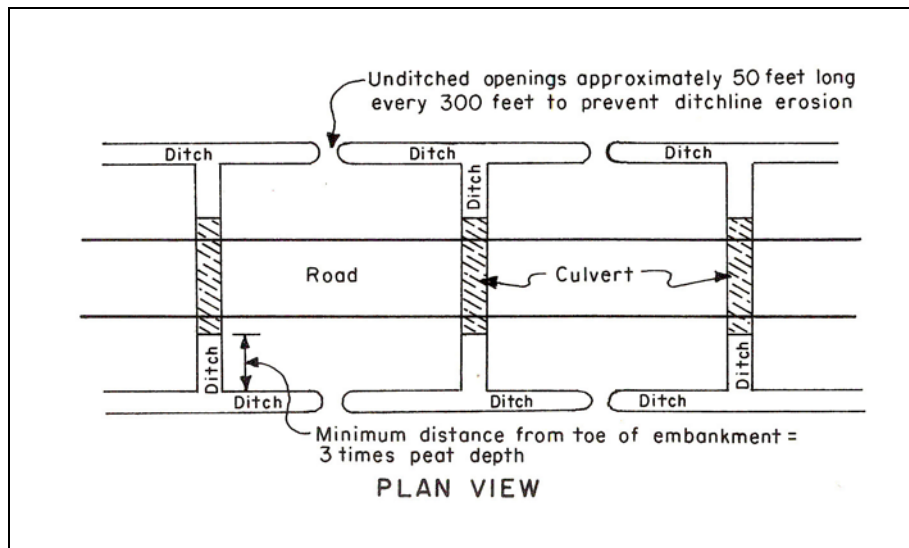

Figure 23. Illustration of Use and Placement of Culverts and Ditches for Wetland Roads.
- ▶ Shallow ditches parallel to the road centerline should be constructed along the toe of the fill to collect surface and subsurface water flows, carrying flows through the culvert(s) to the other side of the road and into a vegetated area (see Figure 23). Any ditches must be of depth and width only to allow cross drainage and support the stability of the road. **Deeper or excessive ditching will require a permit from the DEQ.**